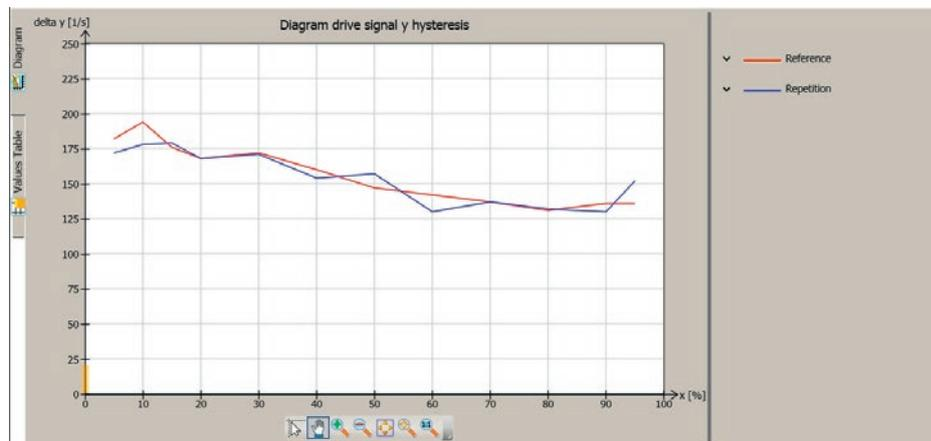

Fig. 4: Drive signal diagram hysteresis
2.2.2 Drive signal diagram hysteresis (Fig. 4)